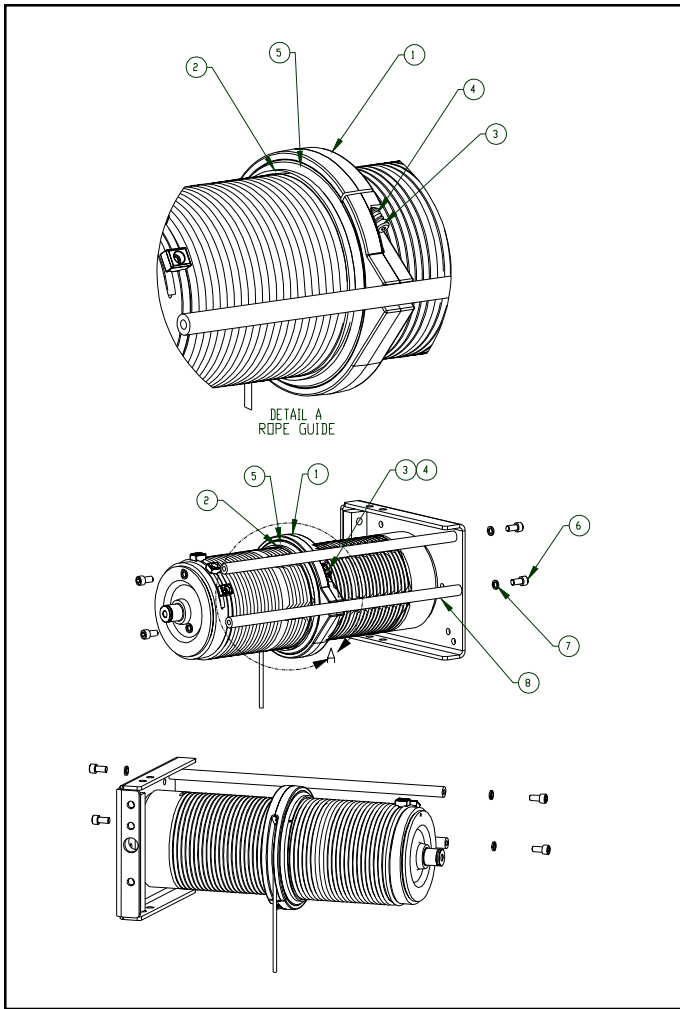

Figure 5-3 Rope Guide Assembly
- (1) Replace wire rope if the number of visible broken wires exceeds 13 over a length of 6 times the nominal diameter (6d) or exceeds 26 wires over a length of 30d.
- (2) Replace wire rope, if a complete strand has broken.
- (3) Replace wire rope, if rope exhibits swelling, bruises, permanent bends, kinks, crushing, bird-caging or especially heavy wear.
- (4) Replace wire rope, if rope has suffered heat damage from any cause.
b) Disassembly of "A" Frame Rope Guide. Refer to Fig. 5-3. For further assistance in locating components, refer to the parts list in Section IX.
- (1) Remove socket head cap screws and lock washers (Items 6 and 7). Remove drum frame rod (Item 8).
- (2) Remove shoulder bolts (Item 3) and compression springs (Item 4). The two halves of the rope guide body (Item 1) can now be pulled off the drum separately. When reassembling be sure that the half with the rope slot is on the top half of the drum.
- (3) Carefully unhook the rope tensioning spring (Item 5), which is under tension.